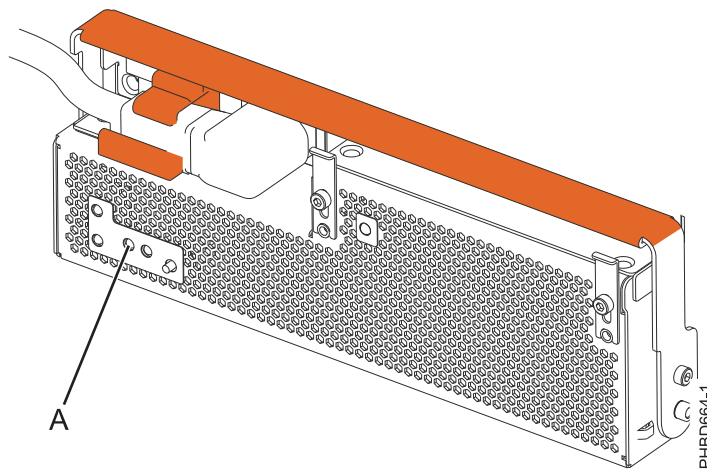

Figure 12. FRU fault and identify LED
4. At the front of the expansion unit, identify the power supply that needs to be replaced. To identify the power supply, observe the state of the amber field-replaceable unit (FRU) fault and identify light-emitting diode (LED) **(A)** as shown in Figure 12. A lit (on solid or flashing) LED indicates the failing power supply.